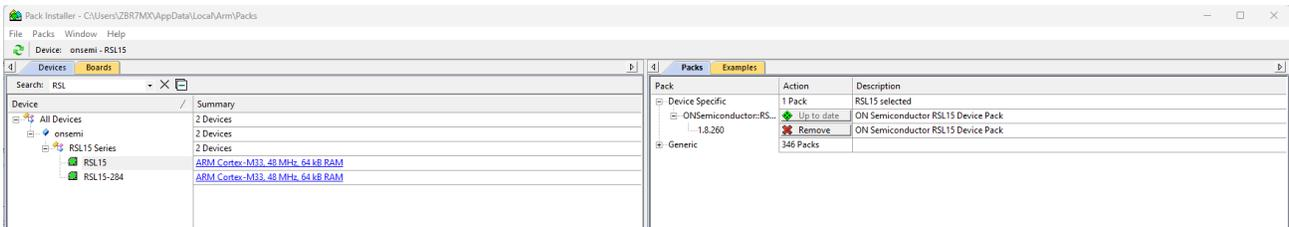

Figure 24. Pack Installer after RSL15 CMSIS-Pack is Installed in the Keil μ Vision IDE
- The RSL15 CMSIS-Pack now appears in the list of installed packs. In the **Devices** tab, if you expand **All Devices > ON Semiconductor > RSL15 Series**, you can see RSL15 listed there. You can manage your installed packs in the **Packs** tab. Expanding **onsemi > RSL15** makes the **Pack Properties** tab display the details of the RSL15 CMSIS-Pack. the "Pack Installer after RSL15 CMSIS-Pack is Installed in the Keil μ Vision IDE" figure (Figure 24) illustrates what the Pack Installer perspective looks like after installation.